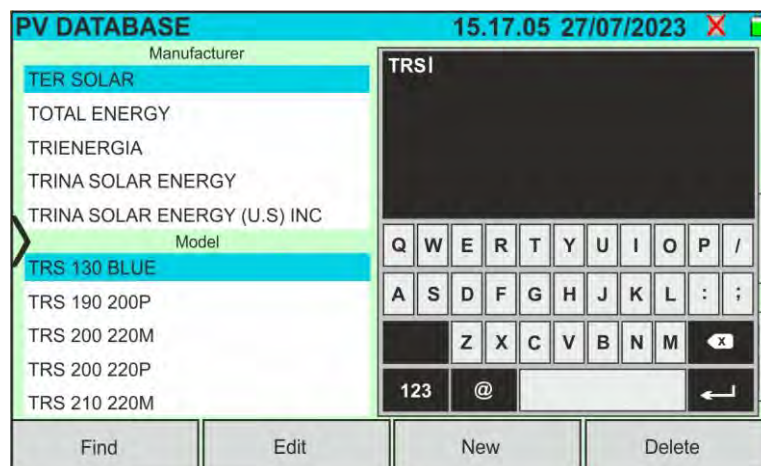

Fig. 30: Search by module
3. Use the alphanumeric virtual keyboard to enter the desired model name or a keyword and tap on **←** (ENTER) on the virtual keyboard to confirm. The searched model (if present) will be highlighted on the display (see Fig. 30)